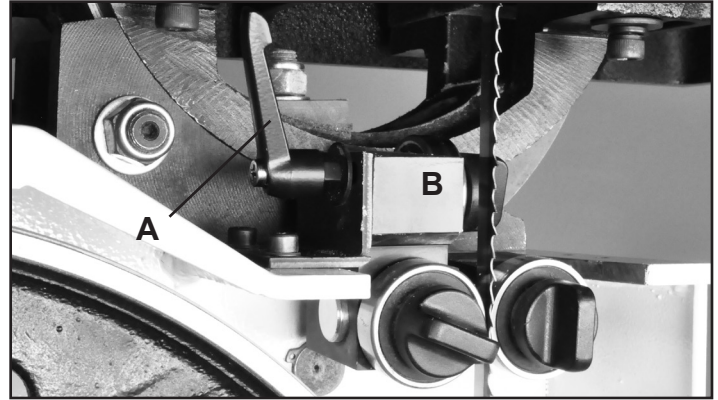

FIGURE 26 NOTE: Blade Guard removed for photo purposes
2. The guides should be approximately $1/16"$ behind the gullets of the saw blade. If they need to be moved, loosen the Lever Handle (#46E, Fig. 26, A), located to the left of the Lower Guide Block (#42E, B), and move this block that holds the guides so that the guides are properly positioned behind the blade gullets. Re-tighten the lever handle when done.